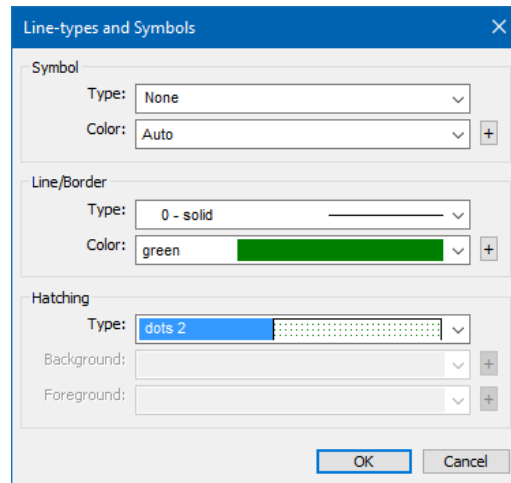

Figure 8-9: Configuring Background Surface Format.
17. Within the *Background Display Properties* dialogue, select *Profile Feature Format* button and set the color to *green* and hatch type to *dots 2* (Figure 8-9).